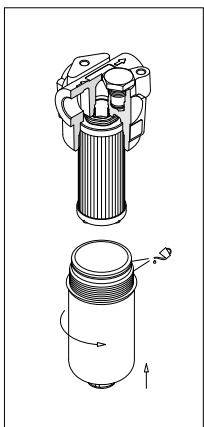

fig. 19
- (Fig. 19) Lubricate the thread and the O-Ring of the bowl, then screw the bowl in referring to the tightening torque table in paragraph 3